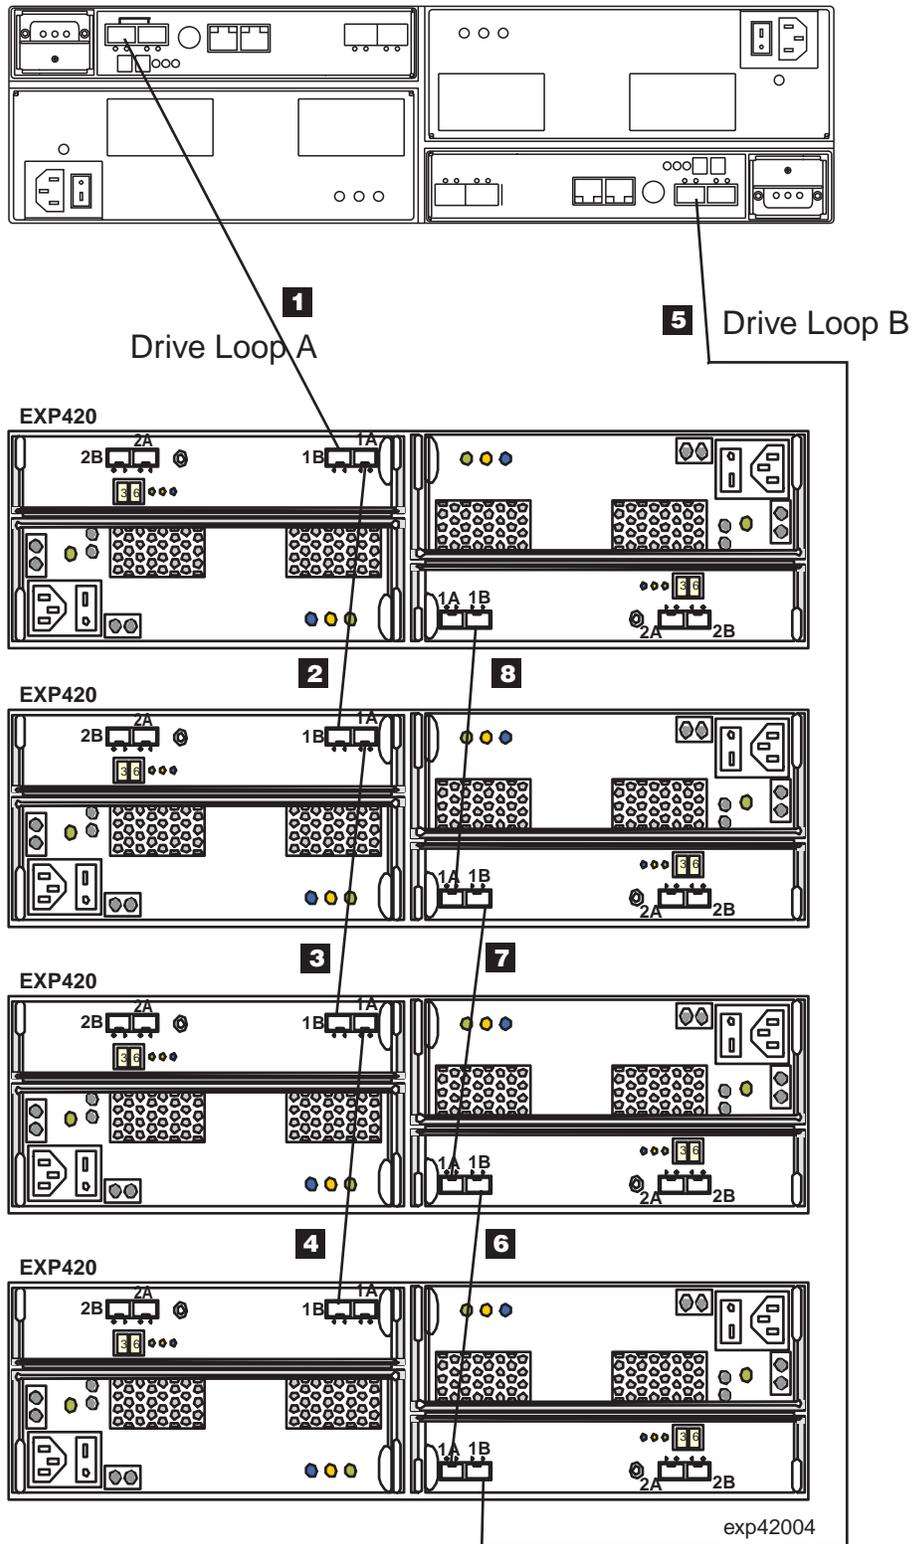

Figure 34. Correct EXP420 redundant drive loop configuration
- **The controller drive ports of the DS4000 storage subsystem controllers must always be connected to the ports labeled 1B in both right and left ESMs of the EXP420s in the redundant drive channel/loop pair that is connected to the DS4000 storage subsystem. (Figure 34 on page 48 shows the location of the ports.)**
Figure 34 on page 48 shows a redundant drive loop that you might create with a DS4200 Express Storage Subsystem and four EXP420s. The numbers provided in Figure 34 on page 48 show the order in which cables should be attached. **Note that the controller port is connected to the port labeled 1B on both the right and left ESMs.**
To create drive loop A (of the DS4200 Express redundant drive loop) shown in Figure 34, you would perform the following steps:
To create drive loop B (of the DS4200 Express redundant drive loop) shown in Figure 34 on page 48, you would perform the following steps: